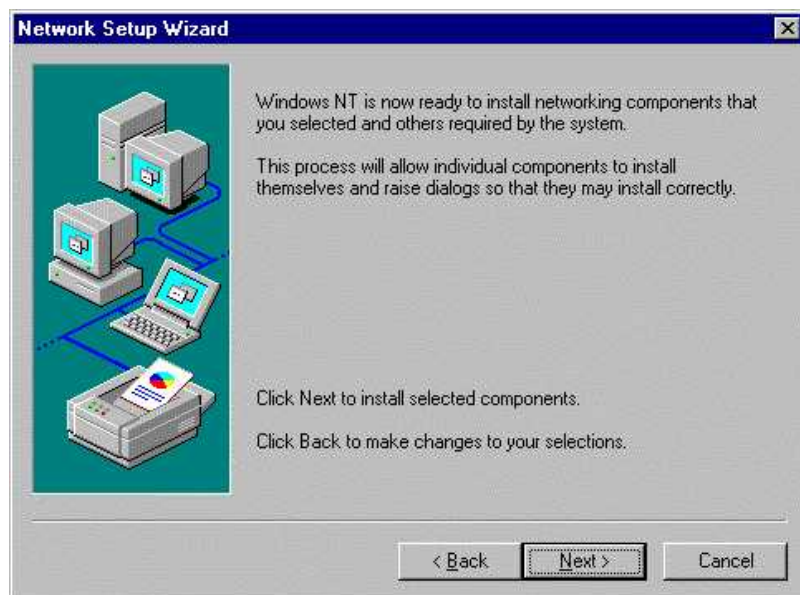

Fig. 8-11 Install components
- ▶ Confirm the following dialog box with "Next" (Fig. 8-11).